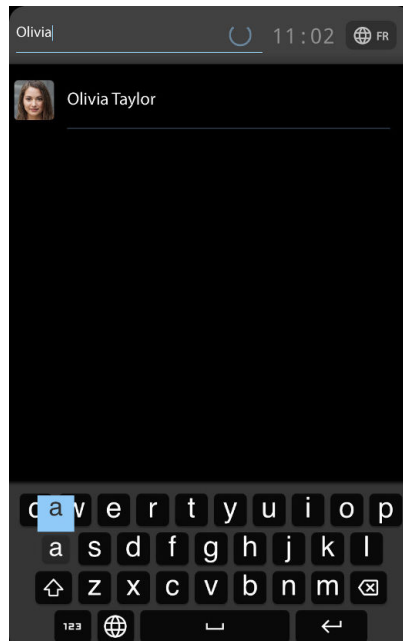

Figure 6. Resident search
- Figure 6. Resident search 11